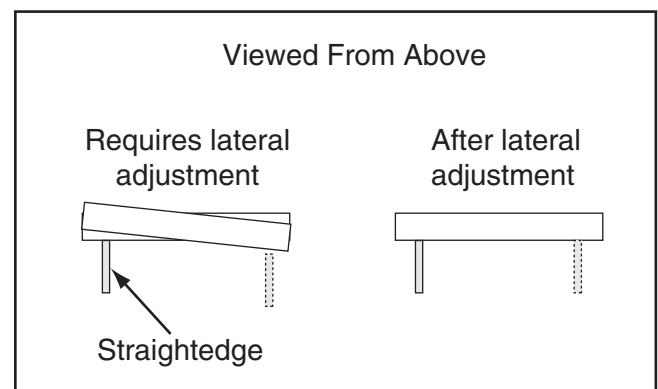

Figure 58. Before and after lateral wheel alignment (viewed from above).
—If the wheels do not align, they require lateral adjustment (see **Figure 58**); proceed to **Step 4**.
6. Rotate left and right adjustment bolts until lower wheel is coplanar with upper wheel, see **Figure 58**.